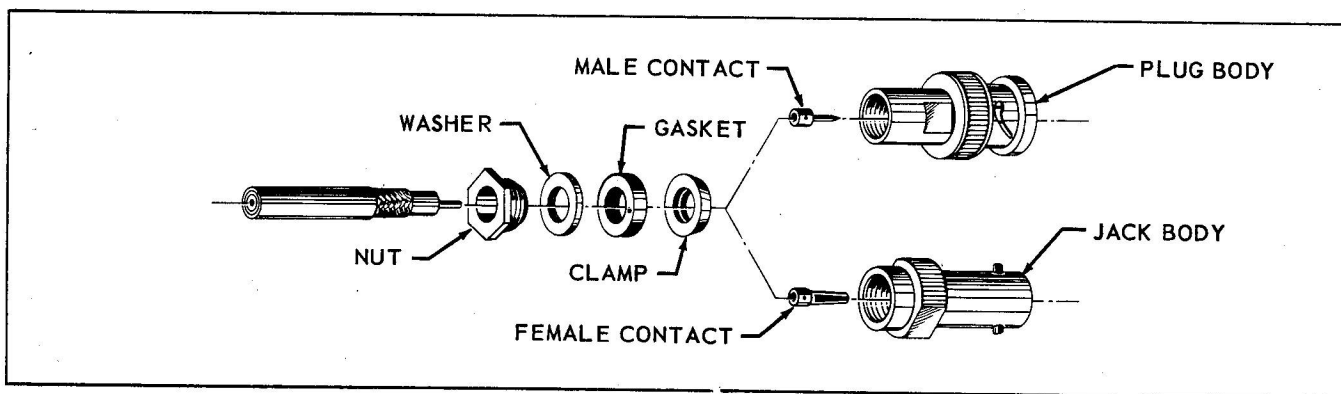

Figure 4-16. Standard BNC Connectors - Exploded View
a. Standard Version (see Figure 4-16) - consists of a plug or jack body assembled to coaxial cable with nut, washer, gasket and clamp. Plug UG-88/U and Jack UG-89/U are typical of this version.
- d. Disassemble nut, washer, gasket and clamp from plug or jack body. See Figure 4-16.